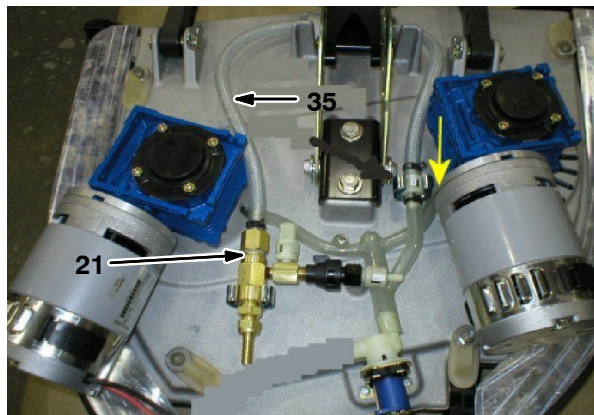

FIG. 8
9. Route the loose end of the 3' braided hose (35) through the scrub head lift assembly and to the solution manifold. Refer to Fig. 8.